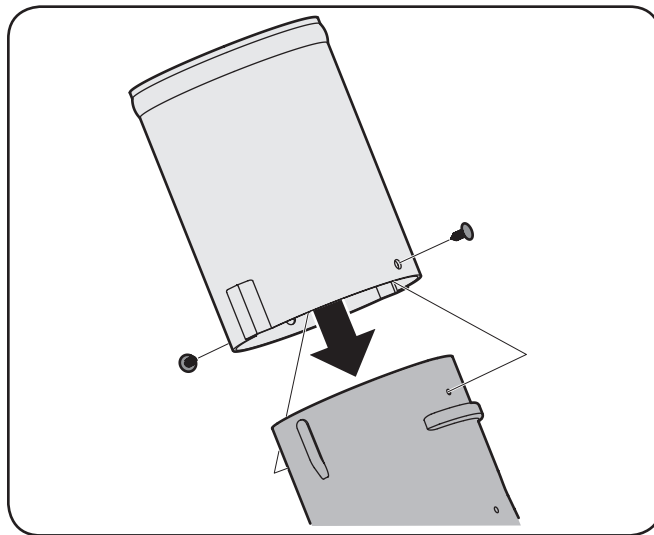

Figure 4-24
13. Install the chute adapter onto the chute elbow by lining up the tabs and sliding the adapter over the chute elbow, as in Fig. 4-24. Secure the chute adapter by installing the two ratchet clips included in the hardware pack in the holes provided.